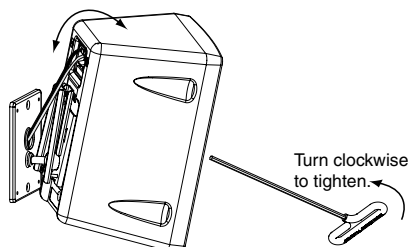

Figure 7 — Adjust speaker and lock in place
2. To adjust the speaker angle insert the allen hex tool into the locking access, loosen the hex cap screw, and adjust to the desired angle (see figure 7). Tighten the hex cap screw down about 6 to 8 turns clockwise, until snug, for the speaker to sit securely in the desired position.